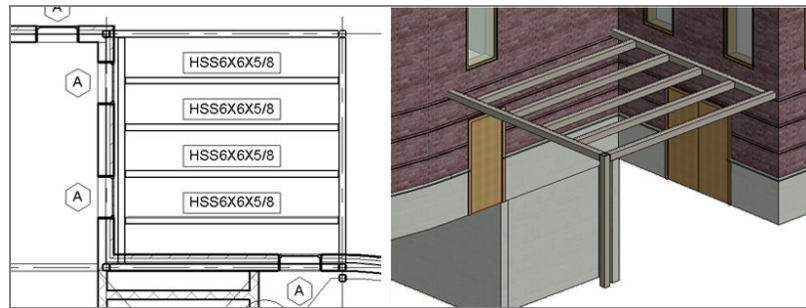

FIGURE 8.43: The framing of the canopy
8. When you see the green lines, pick the top beam, and your framing is placed (see Figure 8.43).